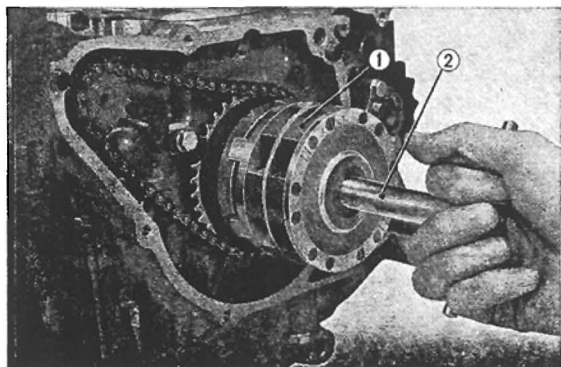

Fig. 3.91 Removing the A C generator rotor
- Remove the generator rotor by using a generator rotor puller. (Fig. 3.91)